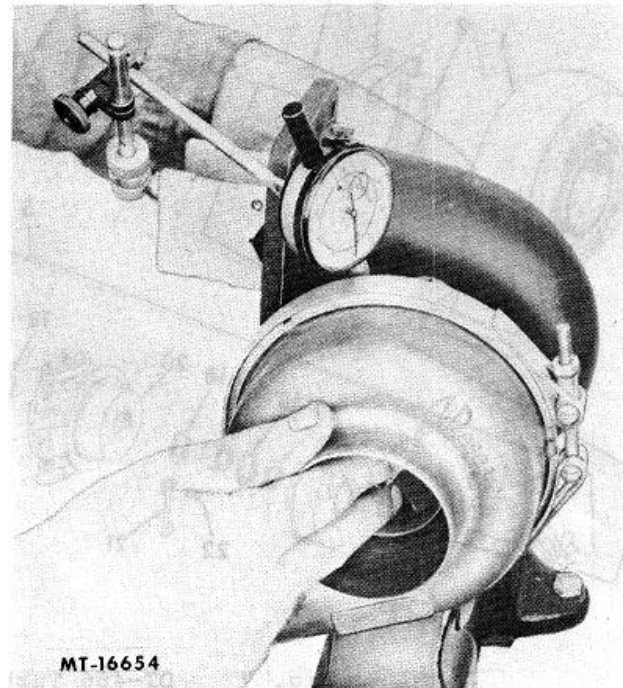

Fig. 9 Checking Radiator Shaft Movement With Housing Installed
2. Install a two inch contact point extension on the dial indicator and position the indicator as shown in Fig. 9. The indicator contact point must contact the turbine shaft through the oil drain port in the center housing.
3. Hold both ends of the rotating assembly and move the shaft up and down, parallel to the extension of the dial indicator (Fig. 9). Be sure to exert equal pressure on both ends of the rotating assembly.